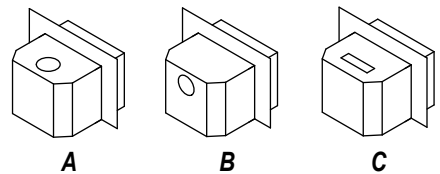
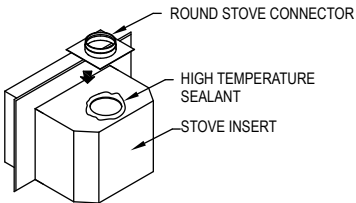
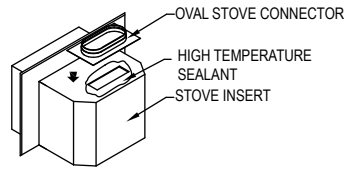

Figure 3
Figure 11a
Figure 12
8. After selection of proper size appliance, determine the correct size of DuraLiner and Stove Connector to the appliance. (Follow stove manufacturer's recommendations). There are three different types of connections: (**See Figure 3**).
STEP FIVE: Stove top connector - round and oval. Attach the proper Stove Connector to your insert or stove. (See **Figure 3**) The DuraLiner round Stove Connector fits either a top vented found flue appliance or a rear vented round flue appliance. Place the proper sized connector over the flue exit and mark on the insert or stove the locations of the holes where the connector will be attached. (See **Figure 11a or 11b**)
Drill and tap hole in top or rear of appliance or use self tapping screws. Before attaching permanently, put a bead of high temperature sealant between stove connector and insert. (See **Figure 11a and 11b**)
The DuraLiner oval Stove Connector fits on top vented appliances or inserts with oval or rectangular openings. (See **Figure 12**) Attach same as in round openings. (See **Figure 11a**)